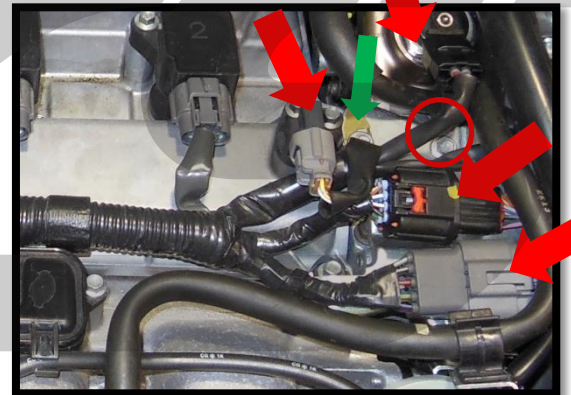

Figure 1f
i) **Unplug the five (5) engine wiring harness connectors** (red arrows in Figure 1f and 1g).
Do NOT unbolt the coil pack grounding wire (green arrow in Figure 1f)
j) **Unbolt the wiring harness bracket** (red circles in Figure 1f and 1g) with an 8mm socket wrench and lift it away from the motor.